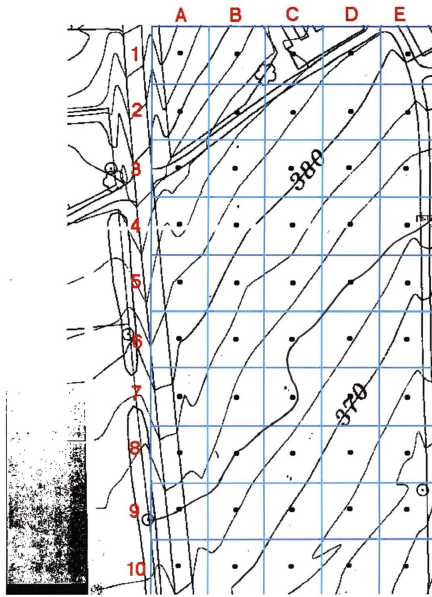

Figure 2: Overlay of grid on topographic map
1. Students are provided with the handout shown in Figure 2, which is available as a PDF file from the Canvas site: